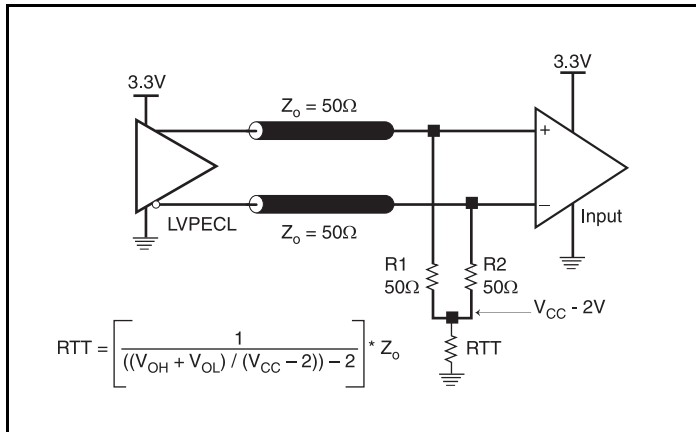

Figure 4A. 3.3V LVPECL Output Termination
*Figures 4A and 4B* show two different layouts which are recommended only as guidelines. Other suitable clock layouts may exist and it would be recommended that the board designers simulate to guarantee compatibility across all printed circuit and clock component process variations.